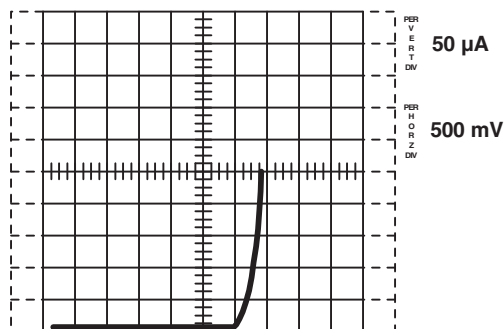

Fig. 4 - Gate-source threshold voltage
- Connect the device using the **left/right** switch. Increase the **variable collector voltage** until the drain current reaches 250 μA as indicated by the trace on the screen. Read the voltage on the horizontal center line (since this line corresponds to $I_D = 250 \mu\text{A}$) (see figure 4).